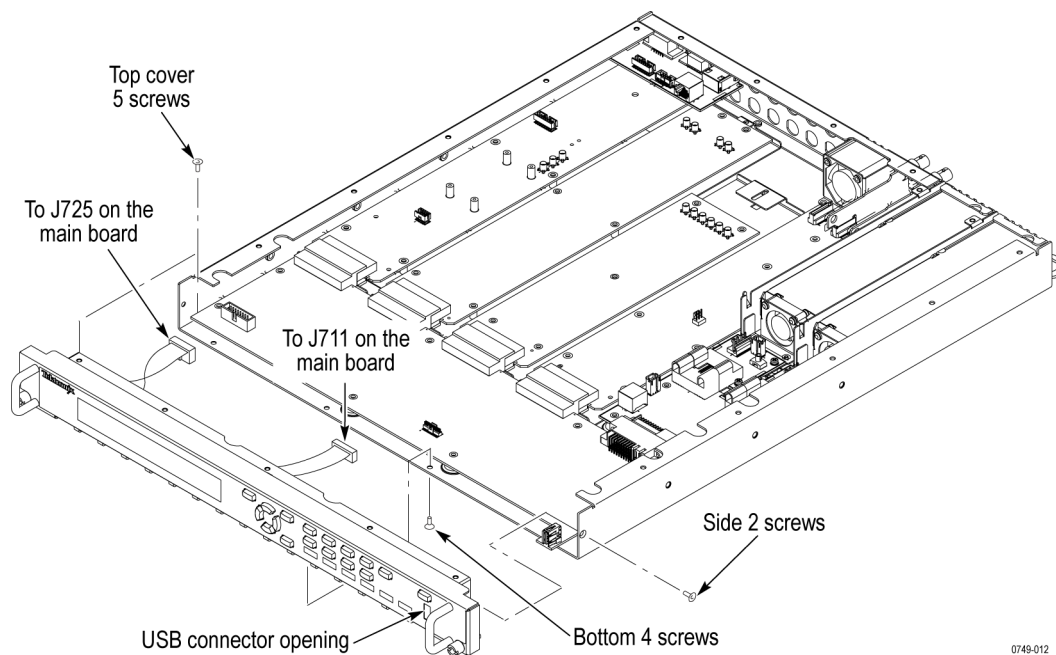

Figure 18: Removing the front panel assembly
3. Remove the Front Panel assembly as follows: (See Figure 18.)